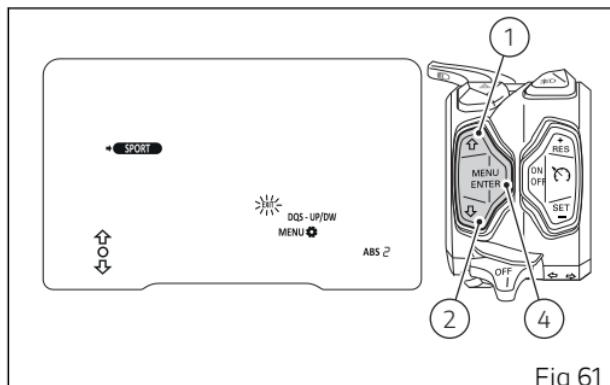

Fig 61
The instrument panel displays the new set level and "EXIT" flashing (Fig 61). Now press button (4) to go back to previous display mode.